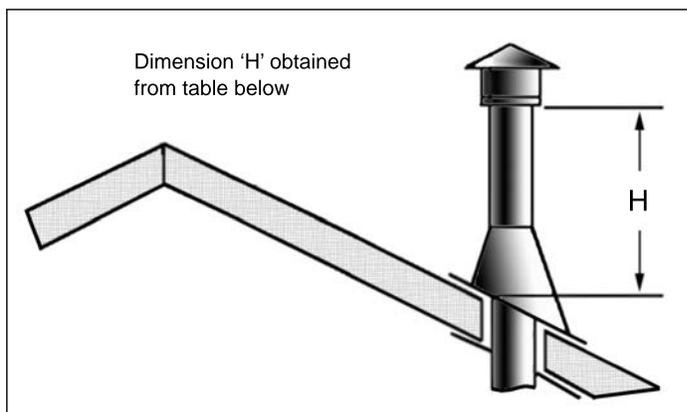

Figure 36: Height of Vertical Termination; Reference Table 7.
- STEP 8.** Continue to add pipe sections until the height of the vent cap meets the minimum code requirements. Refer to Figure 36 and Table 7. Note that for steep roof pitches, the vent height must be increased. In high wind conditions, nearby trees, adjoining roof lines, steep pitched roofs, and other similar factors can result in poor draft, or down drafting. In these cases, increasing the vent height may solve the problem.